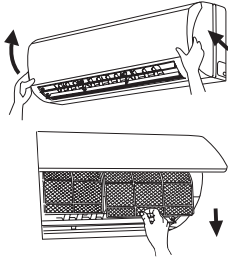

Fig.15
- (1) Forcibly pull the panel for a specific angle from the two ends of the front panel according to the arrow direction. Then pull the air filter downwards to remove it. (See Fig.15)